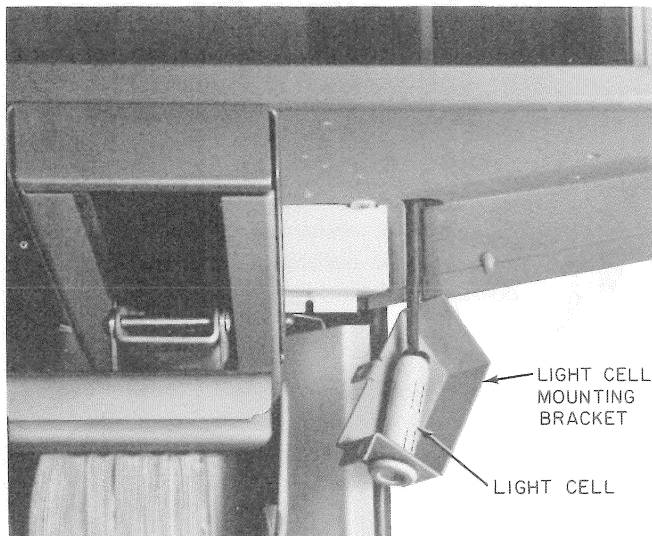

Fig. 18—Installation of Light Cell in Mounting Bracket
- (h) Install the light cell in the light cell mounting bracket as shown in Fig. 18.